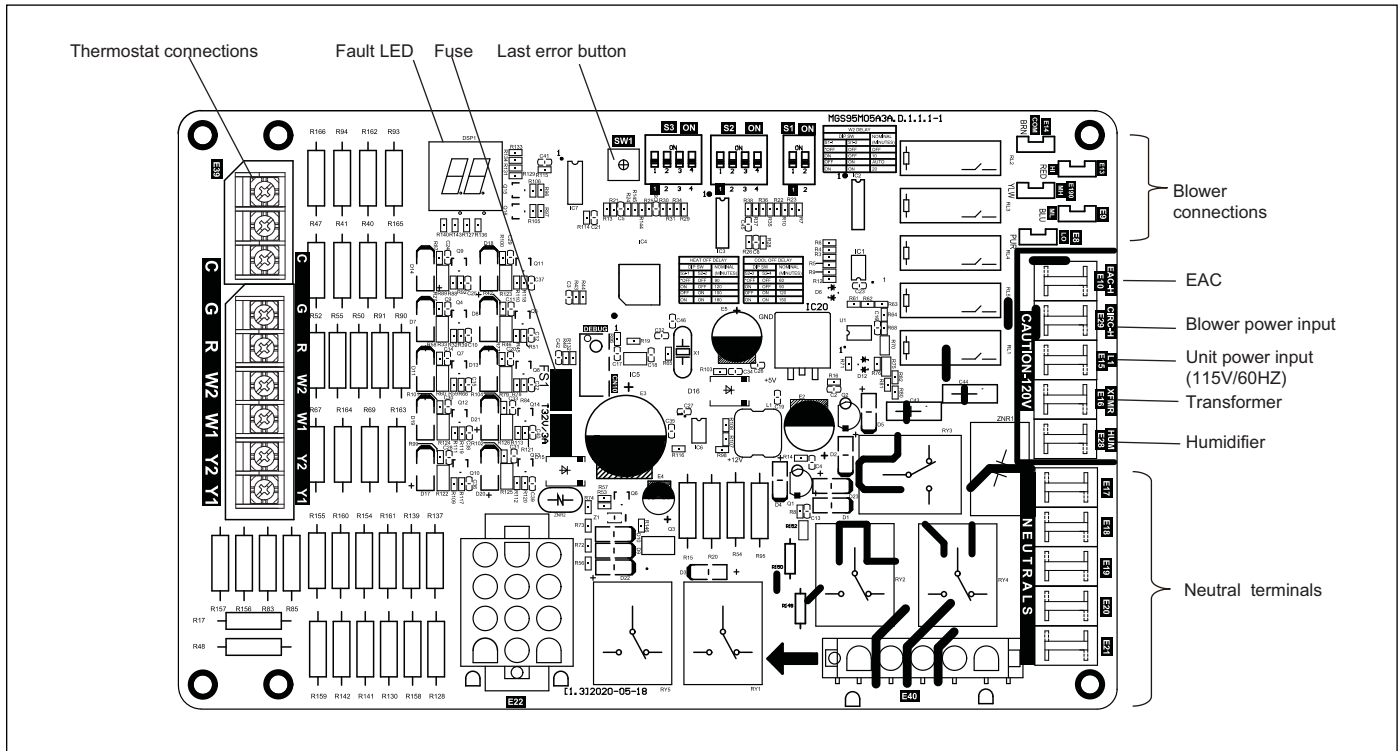
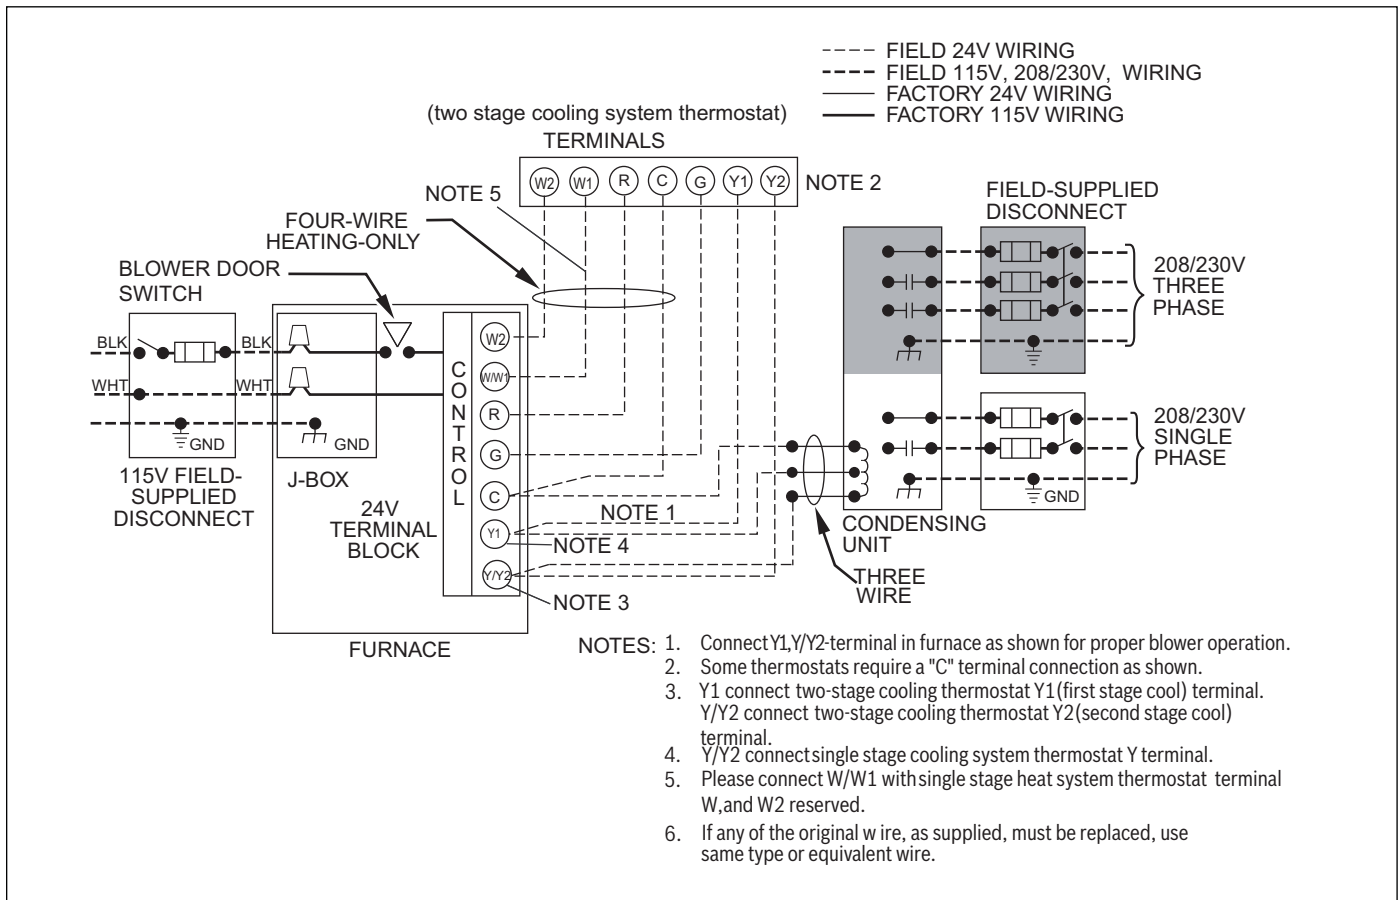

Figure 36 Furnace Control
Figure 37 Heating and Cooling Application Wiring Diagram with 2-Stage Thermostat
5. Connect line voltage leads as shown in Fig. 37.
See Fig. 36 and Fig 37.
12. Complete electrical box wiring and installation. Connect line voltage leads as shown in Fig. 37. Use best practices (NEC in U.S.) for wire bushings, strain relief, etc.
Make field 24V connections at the 24V terminal strip (See Fig. 36.). Connect terminal Y as shown in Fig. 37 for proper cooling operation. Use only 18 AWG, color-coded, copper thermostat wire.
For connection to an Electronic Air Cleaner (if needed), use ¼-inch female quick connect terminals to engage with the two ¼-inch male quick connect terminals on the control board marked EAC-H and one of NEUTRALS. The terminals are rated for 115 VAC, 1.0 amps maximum and are energized when blower motor is in operation (see Figure 36).
Connect an accessory humidifier using the ¼-inch male quick connect terminals marked HUM and one of NEUTRALS, respectively, on the control board. The HUM is energized when gas valve relay is energized. The terminals are rated for 115VAC, 1.0 amps maximum (See Figure 36).
1. Maintain 115V wiring and ground. Improper polarity will result in rapid flashing LED and no furnace operation (See Fig. 37).
2. Make thermostat wire connections at the 24-V terminal block on the furnace control. Failure to make proper connections will result in improper operation (See Fig. 37).
Read and follow the wiring diagram (Fig. 36) very carefully.